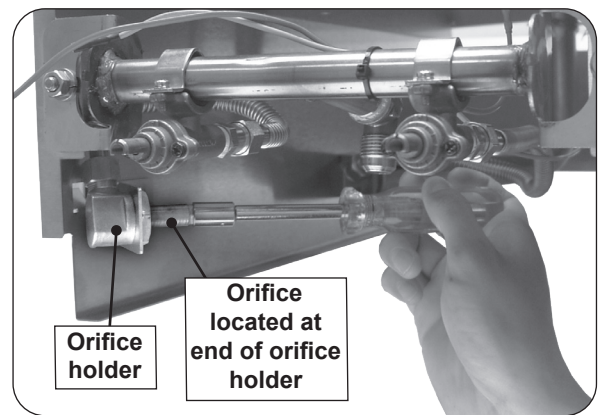

Fig. 33-1 Orifice location
4. Using a $\frac{3}{8}$ " socket nut driver, remove the orifice from the orifice holder (see Fig. 33-1) and check the number stamped on the orifice face.